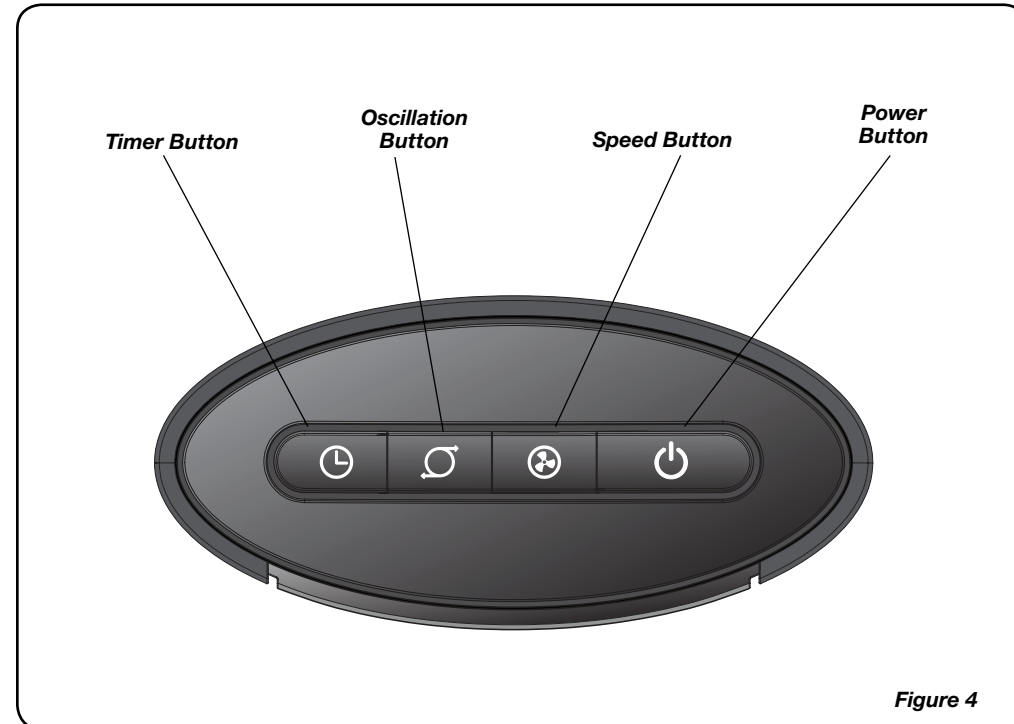
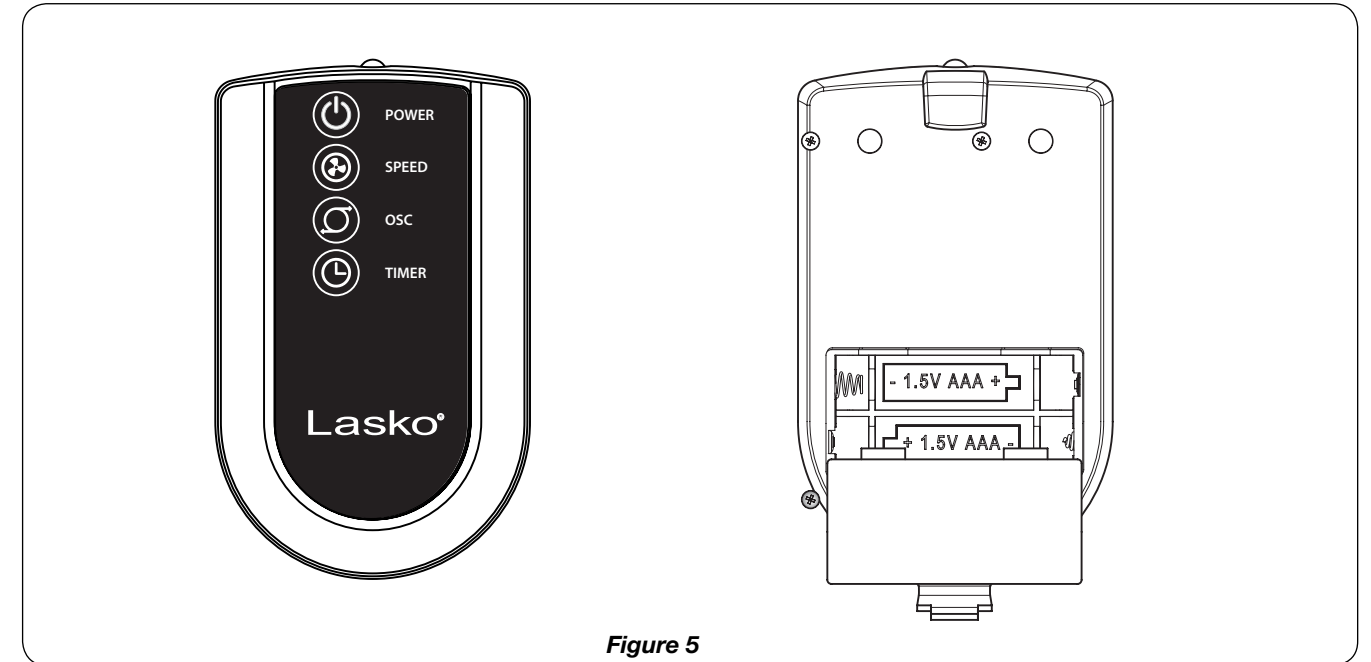

Figure 4
Figure 5
- Align the Support Base holes with the threaded inserts on the bottom of the fan. Secure the (3) Thumb Screws into the three holes in the bottom of the base (Figure 4). Use hand or Philip screwdriver to tighten.
- Route the Power Supply Cord out the rear of the Support Base as depicted (Figure 4).
OPERATION (Figures 4 and 5)
This Fan may be operated by the Manual Controls located on top of the unit (as shown in *Figure 4*) or by the Remote Control (shown in *Figure 5*).
REMOTE CONTROL (Figure 5)
1. Install batteries (not supplied) as shown in *Figure 5*. The battery is size "AAA".